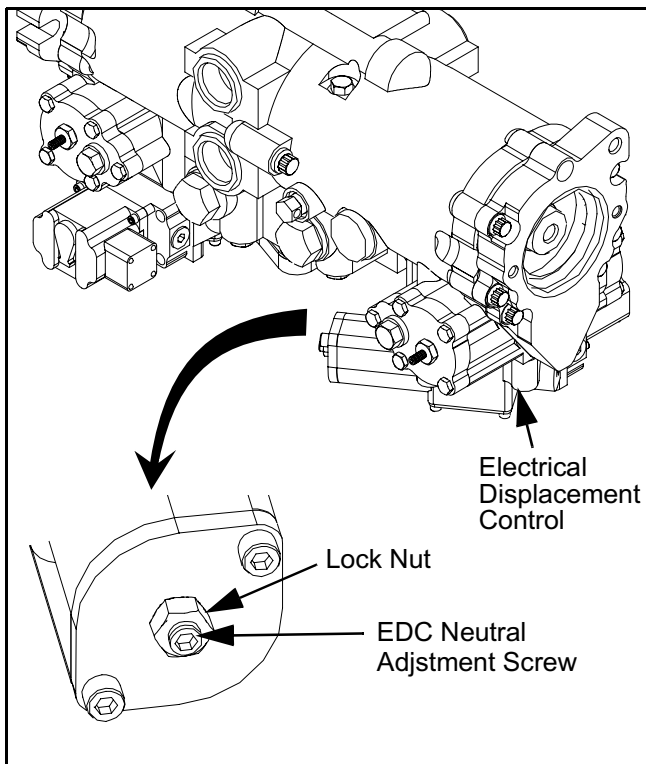

Figure 5 - 15 Electrical Displacement Control
- 9) Disconnect wiring from the Electrical Displacement Control (EDC) at the pump. (Figure 5 - 15)